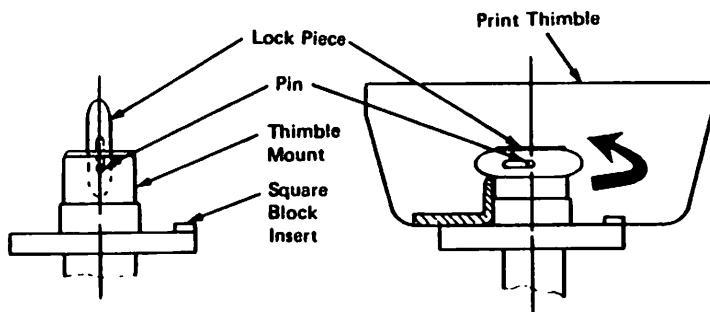

Figure 40 Locking the print thimble
6. While gently holding the thimble seated, move the lock piece to the horizontal position and slide it toward the center to latch the print thimble (Figure 40).